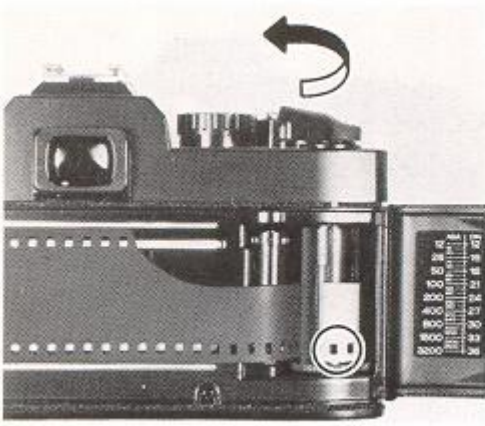
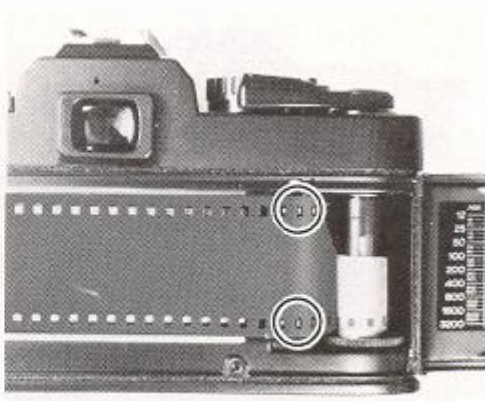

Fig. 7
Fig. 8
6. Rotate Film Take-up Spool (36) by advancing Film Advance Lever (13) to take up any slack in the film and check to see that the film tip is firmly hooked onto Film Take-up Spool (36) (Fig. 7) and that sprocket holes on the film are fully engaged on Sprocket Teeth (23) (Fig. 8).
7. Close and press Back Cover (37) firmly until it snaps shut.